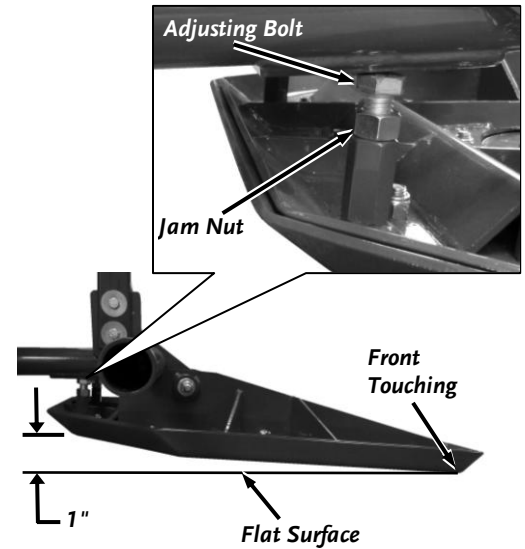

Figure 17
1. Lower the Cutting Head Assembly with your lifting device until the forward end of the Head just touches the concrete (**Figure 17**).